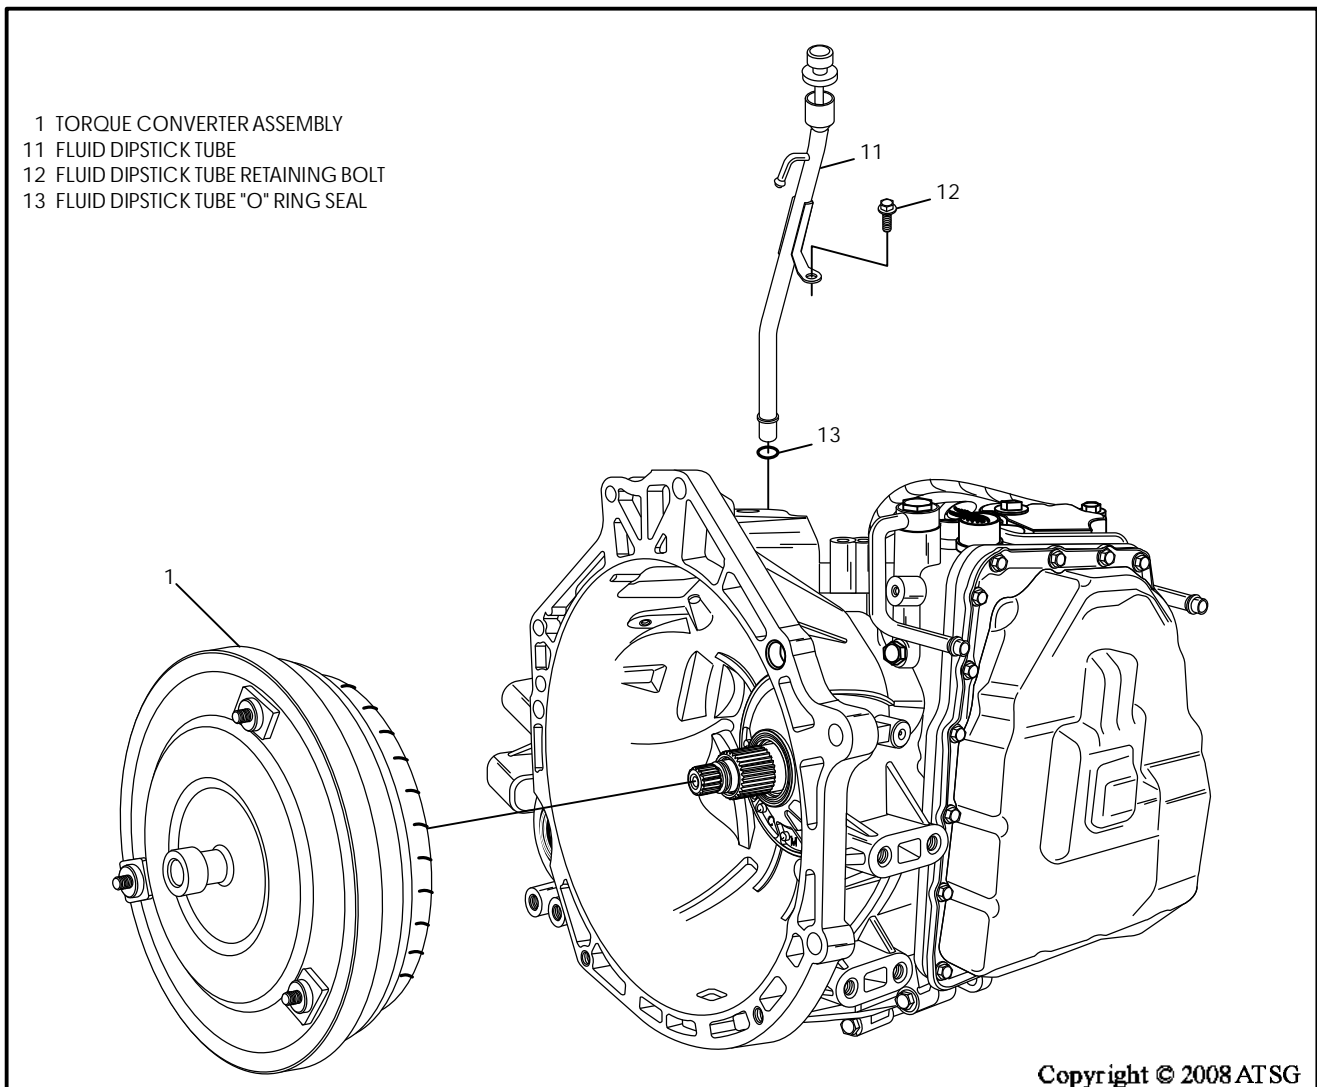

Figure 32
3. Remove the torque converter from transaxle, as shown in Figure 32.
4. Remove the retaining bolt, dipstick and tube, as shown in Figure 32, discard "O" ring seal.